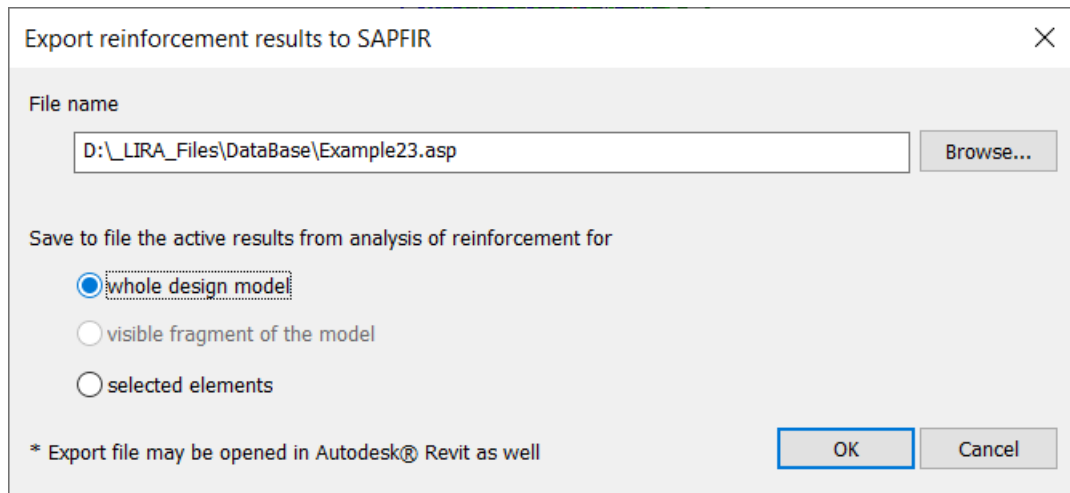

Figure 23.41. **Export reinforcement results to SAPFIR** dialog box
- ⇒ In the **Export reinforcement results to SAPFIR** dialog box (see Fig. 23.41), define the following data: